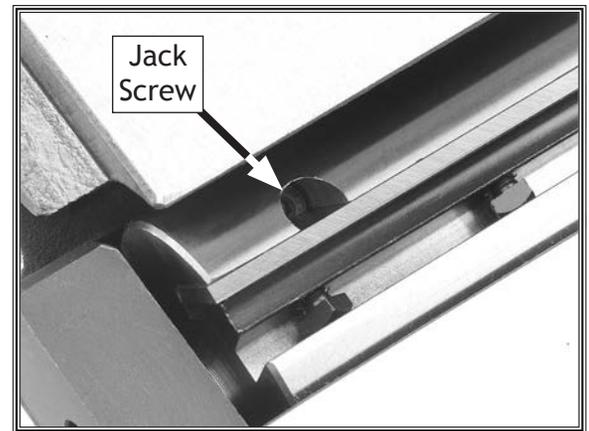

Figure 32. Location of jack screw access hole.
7. **Jack Screws**—Access jack screws through holes in cutterhead (see **Figure 32**). Using a hex wrench, rotate jack screws to raise or lower knife. When knife is set correctly, it will barely touch the bottom of the straightedge or the middle pad of the knife jig. Snug gib bolts just tight enough to hold knife in place. Repeat with remaining knives.